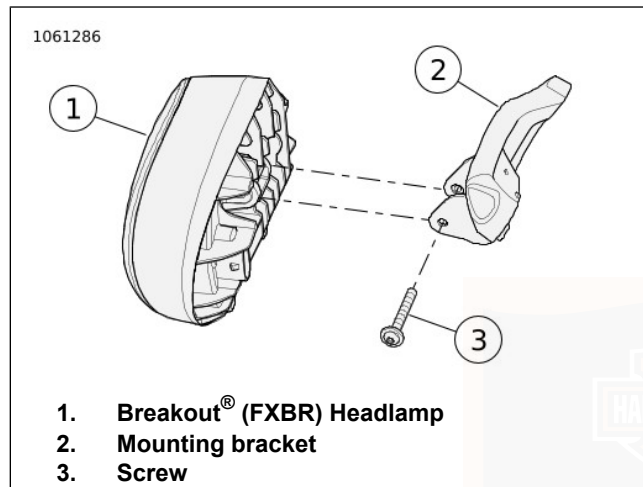
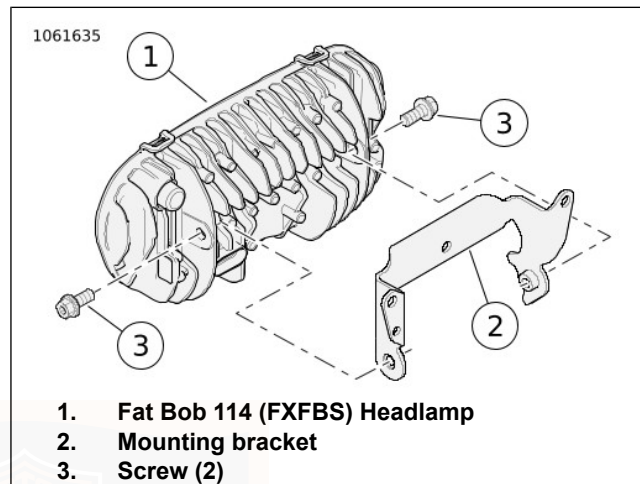

Figure 80. Headlamp Adjustment
Figure 81. Headlamp Adjustment
- 1. See Figure 80 and Figure 81. Loosen vertical adjustment screw (3). Adjust headlamp vertically until beam centers on horizontal line.
2. Tighten vertical adjustment screw (3):